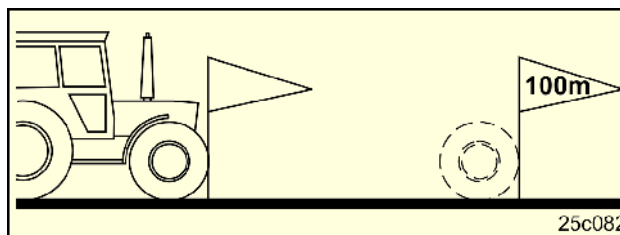

Fig. 29
- Carefully measure the test distance of 100 m in the field. Mark beginning and end of the test distance (Fig. 29).